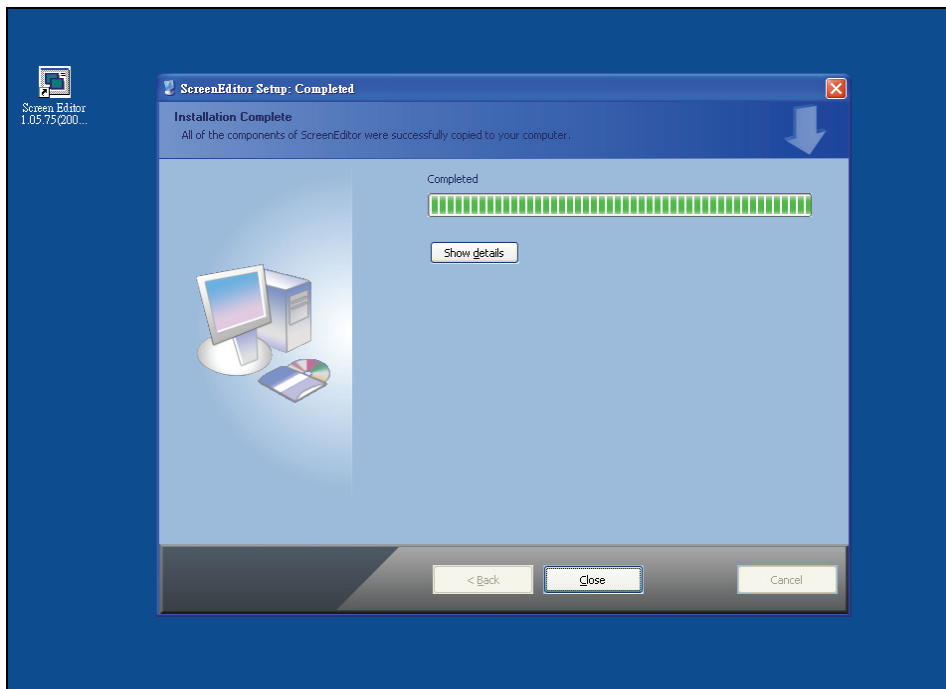

Fig. 2.1.6 Finish installing ScrEdit
- Step 5: After finish installing ScrEdit (Fig. 2.1.6), system will ask you to install HMI USB driver, please click **Yes** to install.